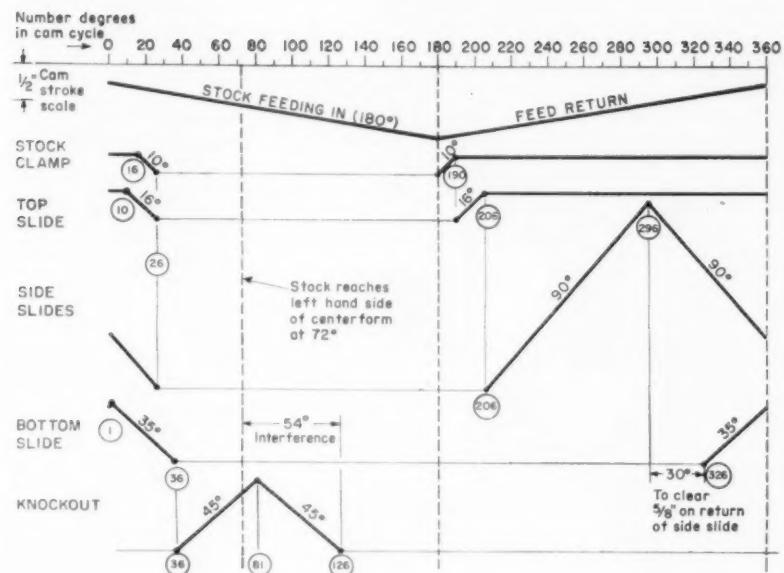

Fig. 6. Revised layout for cam chart to fit available cycle time.
Step 4—Revised Layout: In planning the revised cam chart in Fig. 6, 55 degrees have been cut from the forming cycle in three ways: (1) the pressure angle has been increased to 32 degrees for all cams; (2) the return strokes of the bottom slide and knockout have each been reduced, and (3) the top slide and knockout have both been advanced.
The revised cam chart in Fig. 6, including all the changes discussed, therefore fits (just barely) all the requirements of the feed cycle by completing the forming sequence for the part in Fig. 3 at 71 degrees. It is certainly possible after all opportunities for reducing the total cam angle have been taken that there will still be an insufficient angle available for forming. In such cases, it is then necessary to revise the forming sequence or, if provided on the forming machine, reduce the stock-feed angle to less than 180 degrees.